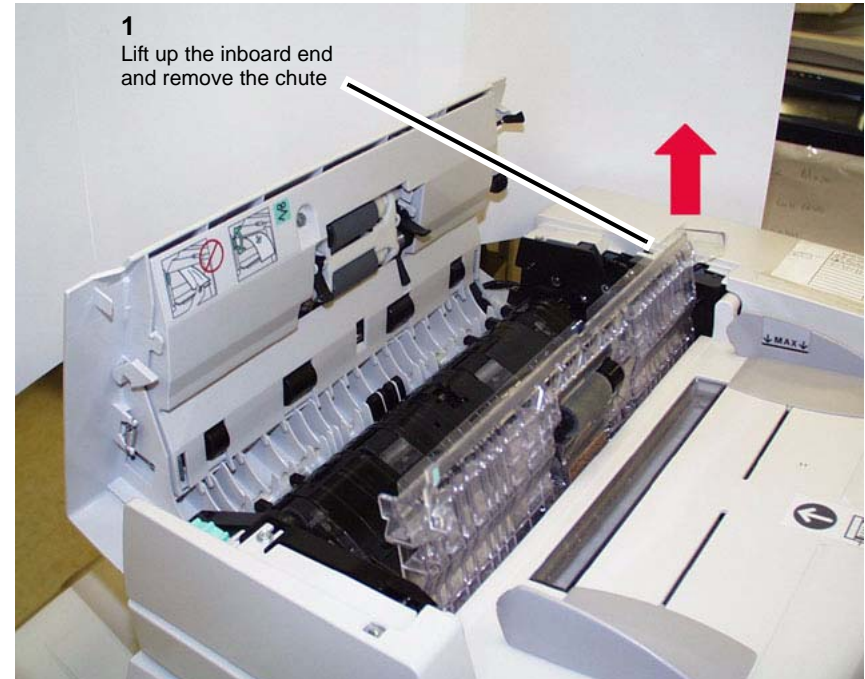

Figure 1 Removing the Retard Roll chute.
2. Remove the Retard Roll chute. (Figure 1)